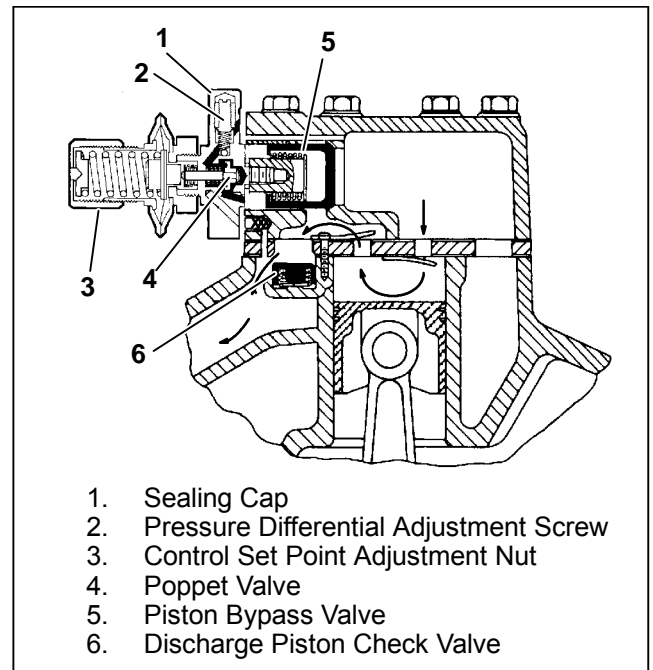

Figure 1-8. Pressure-Operated Unloader Loaded Operation
During *loaded operation*, (Figure 1-8) when suction pressure is above the valve control point, the poppet valve (4) will close. Discharge gas bleeds into the valve chamber; the pressure closes the piston bypass valve (5) and the cylinder bank loads up. Discharge gas pressure forces the discharge piston check valve (6) open, permitting gas to enter the discharge manifold.